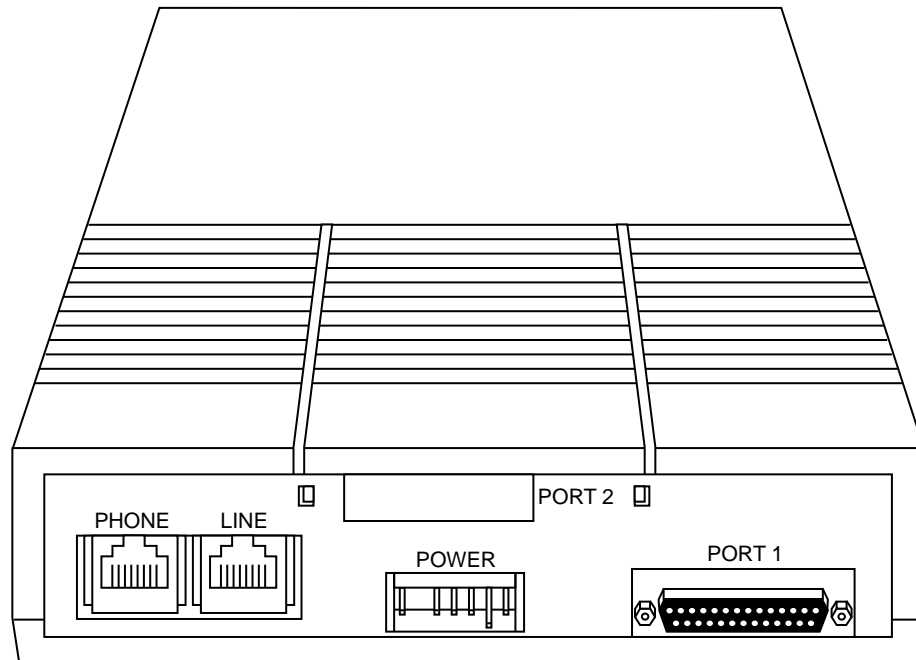

FIGURE 8-2. The Back of the 7500 Data Module
2. Connect the D8W line cord to the jack labeled **LINE**. See Figure 8-2.
3. Make sure the power supply plug is properly aligned; then connect the power cord to the 7500 data module into the connector labeled **POWER**. See Figure 8-2.
4. Connect the male end of the EIA-232D cable to the connector labeled **PORT 1**. See Figure 8-2.